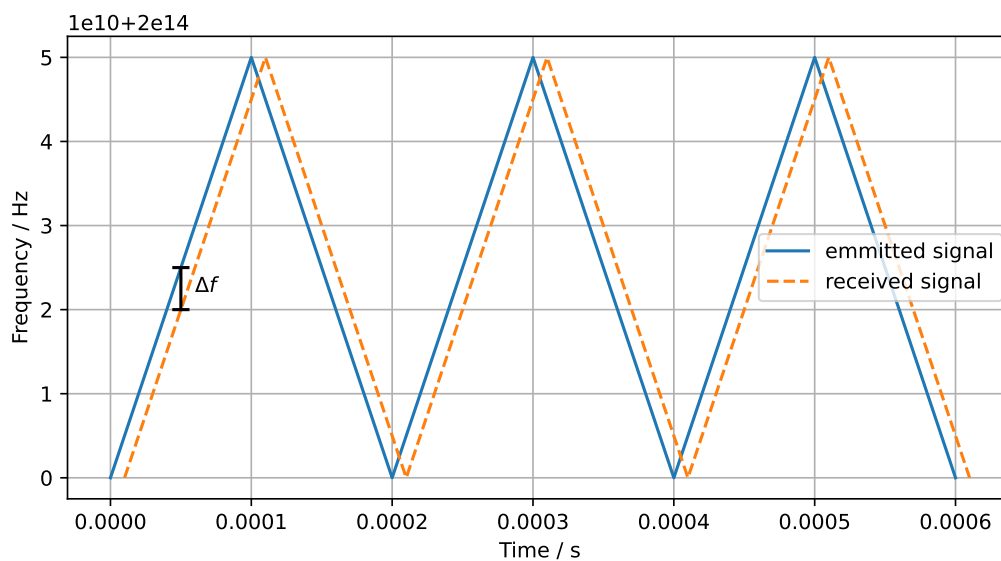

Figure 2: Emitted and receives LiDAR signal.
- In Figure 2 the emitted and received signal frequency of a *Frequency Modulation* (FM) *Light Detection and Ranging* (LiDAR) sensor is depicted. An object  $O_1$  is placed in front of the sensor, the object is not moving.